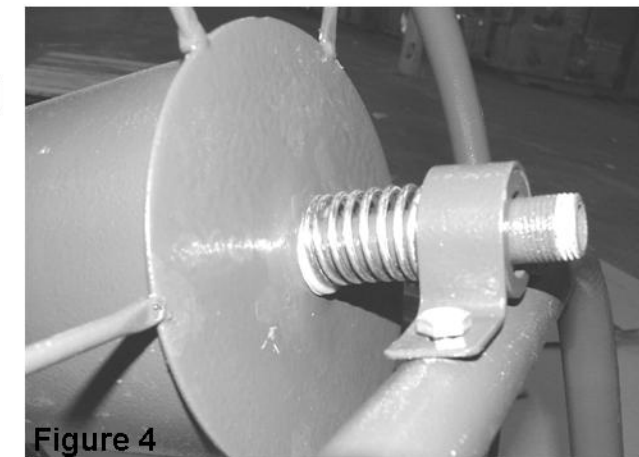

Figure 4
4. Insert U-bushing and align with the holes in the frame and insert U-bushing bolts (O) and attach nuts (P). You may need to put pressure on the spool by compressing the spring to align holes. Tighten U-bushing nuts using a wrench. See Figure 4.